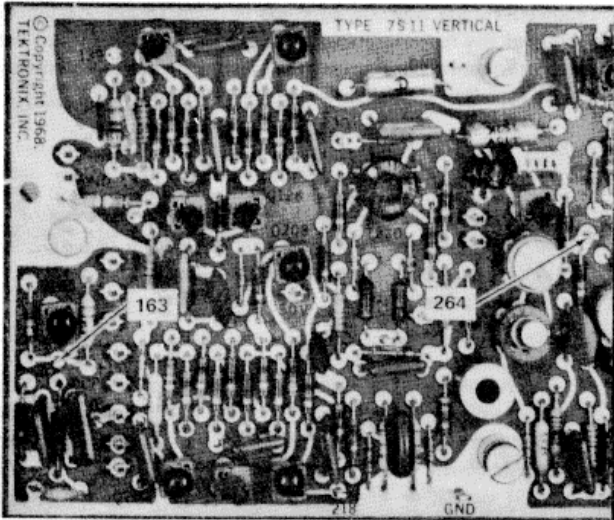

Fig. 6-1. Vertical circuit board location of grounded test points for output jack resistance measurement.
a. Ground test point 163, see Fig. 6-1. Use a DC resistance bridge and measure the DC source resistance at the OFFSET OUT jack.
b. Ground test point 264, see Fig. 6-1. Measure the DC source resistance at the VERT SIG OUT jack with the DC resistance bridge.